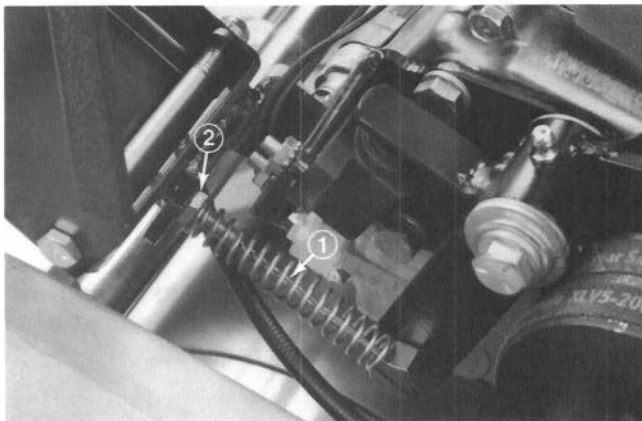

Figure 41
3. To increase cable tension, loosen front cable jam nut and tighten back cable jam nut (Fig. 41) until a force of 3–5 lbs. is required to engage traction control. Force to be measured at control knob.